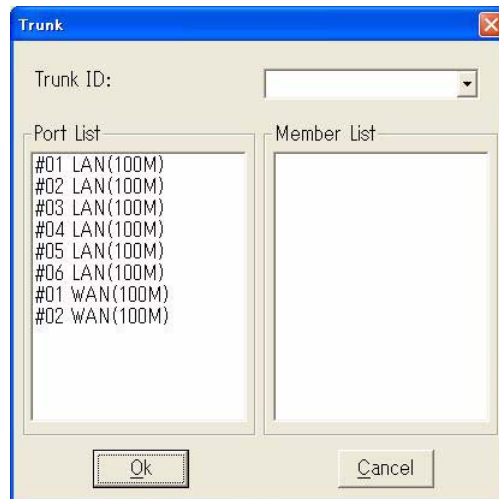

Fig. 4-4-65 Adding Trunk Window
- 2 Select FE card in left subwindow, and then click **Add** button, **Fig. 4-4-65** appears: